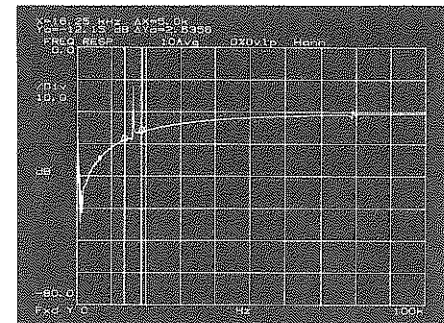

Figure 2-3
2. **Band Marker** In the X-marker softkey menu select **HOLD X CENTER**. This activates the "band marker" capability; turning the marker knob will adjust the width of the band while holding the center frequency constant. The crystal resonator response with the band cursor activated is shown in Figure 2-3.